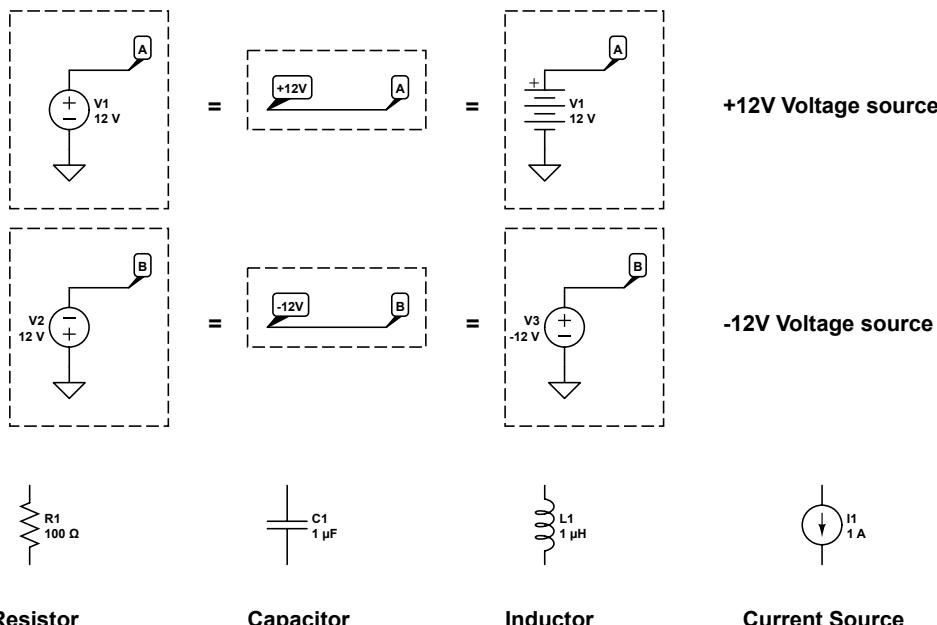

Figure 1: Different symbols are often used in circuit diagrams to describe similar things. Note here the different ways voltage sources are shown.
Note that different books use slightly different symbols for some devices and this can be confusing. Even Circuitlab provides several options to include a voltage source in your experiment. Figure 1 shows three different ways to represent a +12V voltage source (top row) in a circuit diagram. The middle row shows different ways to represent a -12V source. The bottom row shows the standard representations for a resistor (R), a capacitor (C), an inductor (L) and a current source.